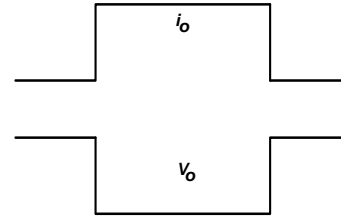

FIGURE 23. DESIRED LOAD TRANSIENT RESPONSE WAVEFORMS
Assuming the compensator design is correct, Figure 23 shows the expected load transient response waveforms if  $C_n$  is correctly selected. When the load current  $I_{core}$  has a square change, the output voltage  $V_{core}$  also has a square response.
Figure 23 shows the desired load transient response waveforms. Figure 29 shows the equivalent circuit of a Voltage Regulator (VR) with the droop function. A VR is equivalent to a voltage source (= VID) and output impedance  $Z_{out}(s)$ . If  $Z_{out}(s)$  is equal to the load line slope LL, i.e., a constant output impedance, then in the entire frequency range,  $V_o$  will have a square response when  $I_o$  has a square change.